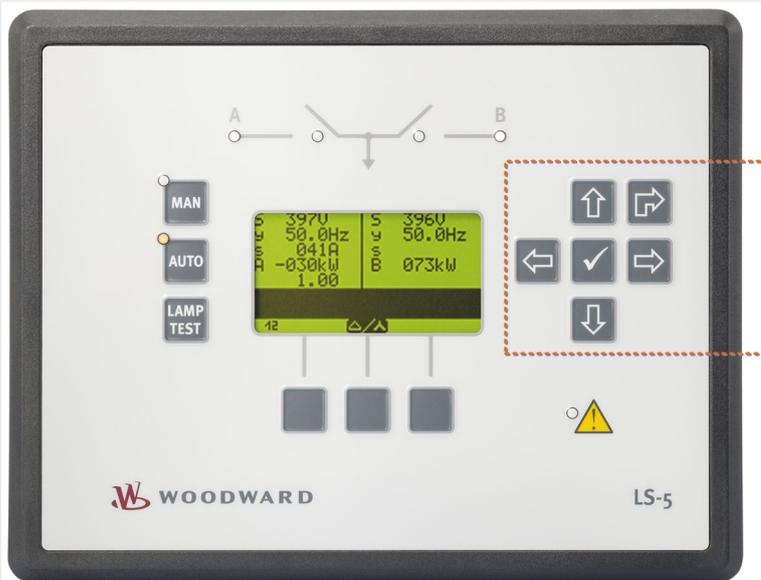

Fig. 141: Front panel and display
1. ▷ Press softkey  until you return to the starting screen (as shown in  Fig. 141).